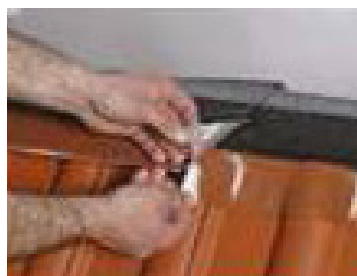
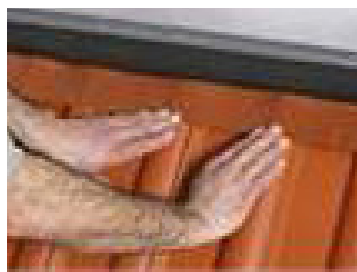
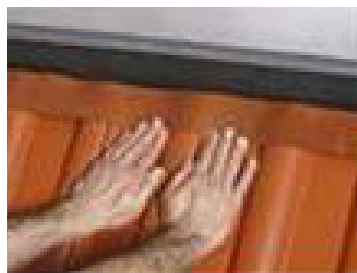

Fig.2
Fig.3
Fig.4
11. Before attaching the butyl strips, ensure the ventilation channels are opened and some space is available between the inner fleece channel and the ridge or hip board. Remove the plastic release film from the butyl (Fig. 2) and press adhesive edges firmly to the roof surface, starting at all peaks (Fig. 3), then forming down into the valleys (Fig. 4). Ensure there is no tension on the ventilation fleece